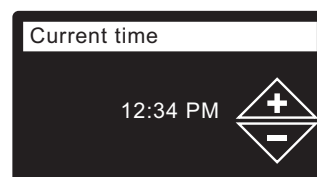

FIG. 26
11. **CURRENT TIME** Press the DOWN (▼) or UP (▲) buttons to set the current time (See Figure 26). Hold the button down to rapidly advance. Be sure that AM or PM is correct. If the system units were set to metric in Step 9, the clock will be in 24-hour format.
12. Press the SELECT (O) button.